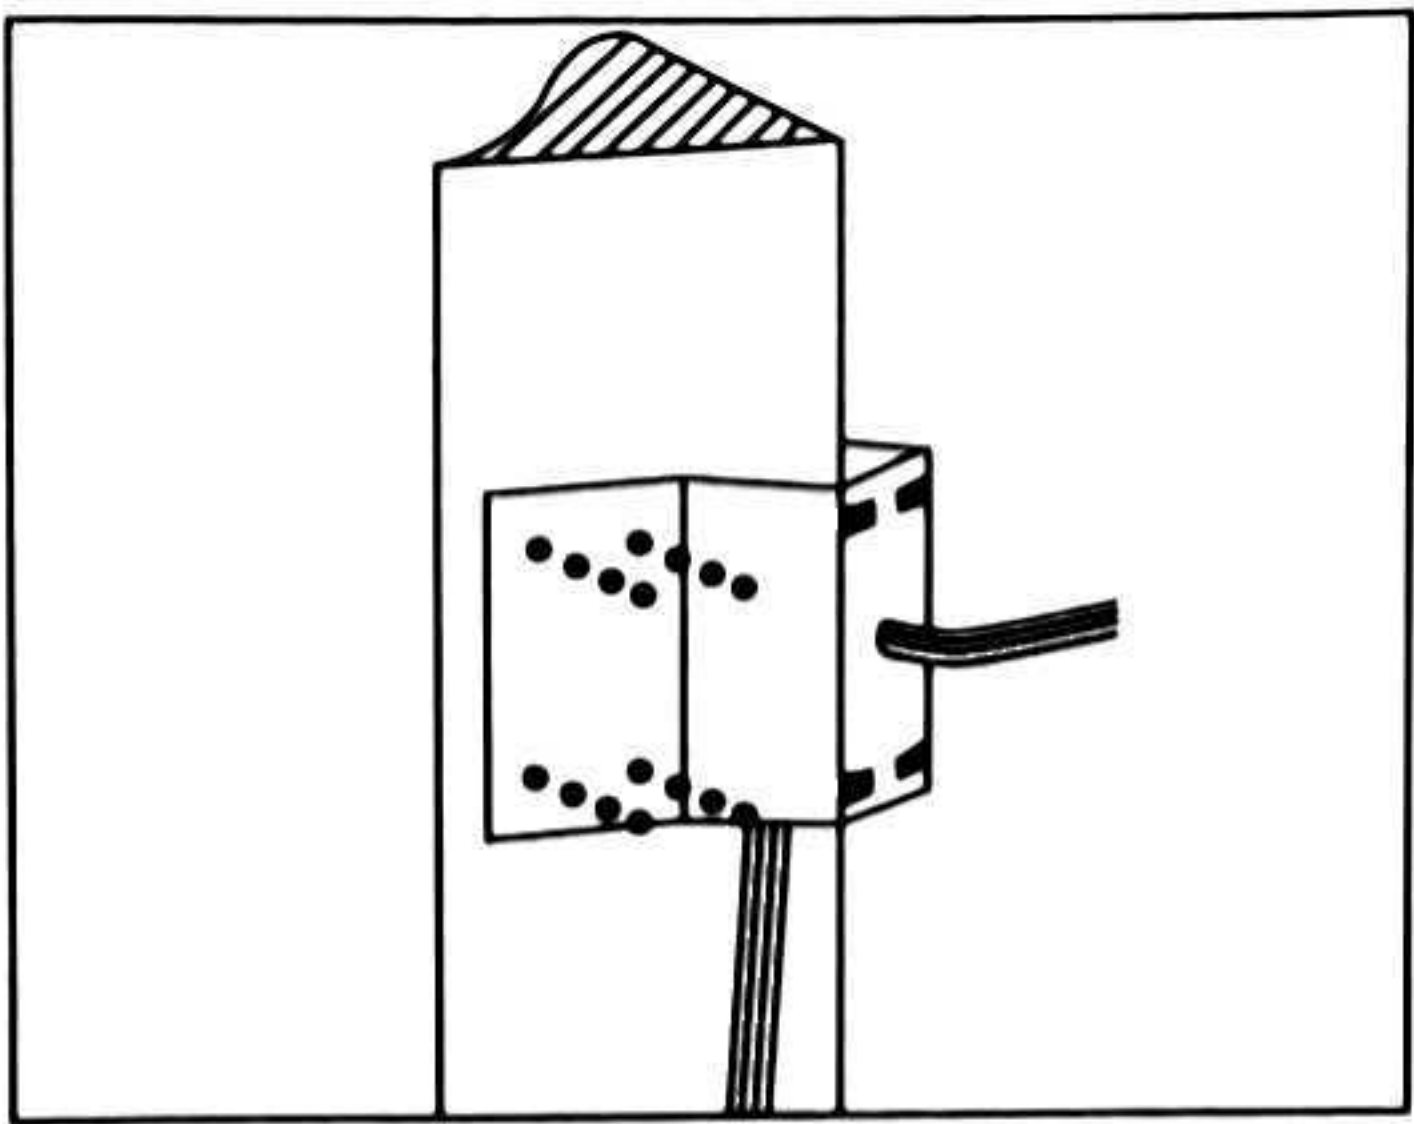

Fig 13
- b. As shown in fig 13, use M8 screw nut to fix the base of corner mounted on the wall with all cables through the center holes of the corner mounted, marine glue and bracket. Enough wiring length should be left.